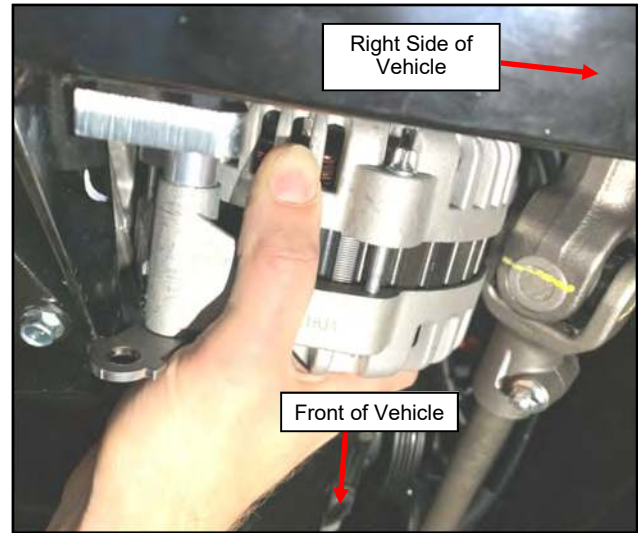

Fig. 3.5 (Insert Alternator into Engine Component)
3.5 Insert alternator with plates and spacers into the engine compartment from below the vehicle as shown in figure 3.5.